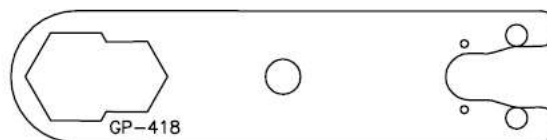
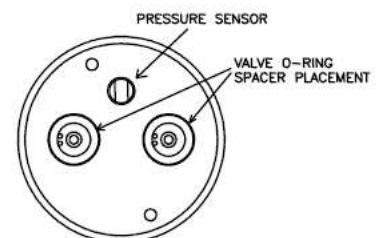
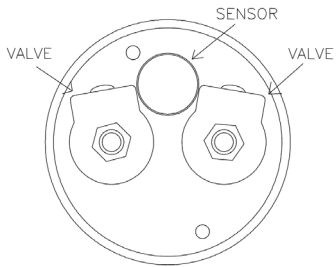
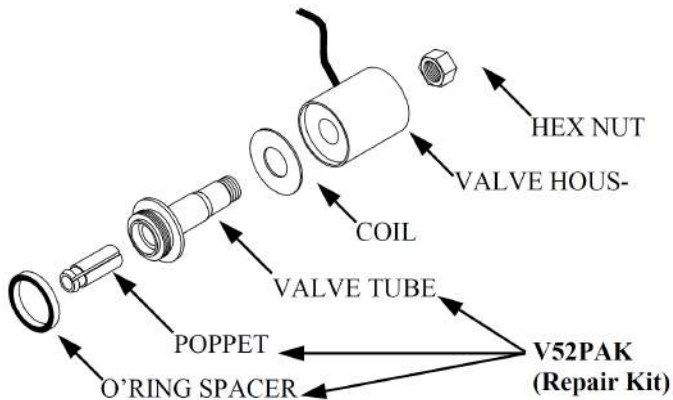

Figure 11
Figure 12
Figure 13
Figure 14
- F. **Figure 14:** Of each valve assembly, remove hex nuts and disassemble valve tube from coil and valve housing. (Keep coil washer, valve housing and hex nut because they are not included in the repair kit and can be reused)
- G. **Figure 11:** Using span wrench, remove valve tube from manifold cavity.
- H. Remove poppet and o’ring spacer from manifold. See figure 12 for o’ring spacer location and **figure 14** for valve orientation
- I. If sensor needs to be replaced, unthread sensor from manifold. See **figure 13** for sensor location.
- Place sealant compatible with media in use on the second or third full threads of the pressure sensor (exercising care not to get sealant into the manifold passages), and thread into 1/8" NPT port on top of manifold. See Figure 13 for sensor location.
- Remove repair kit "V52PAK" from box. Figure 14. V52PAK (repair kit includes: (2) O'ring spacers, (2) poppets, (2) valve tubes & span wrench (figure 11))
- Place new o'ring spacers in valve cavity of manifold. Figure 12
- With poppet installed in the valve tube, thread valve tubes into manifold cavities tightly using span wrench. See figure 14 for poppet orientation.
- Check to make sure valve tubes are tight!** Place coil washer and valve housing on valve tube, refer to figure 14 for assembly order. Turn square end of valves toward sensor. Figure 13. Tighten the hex nuts 1/8 turn past finger tight. Do not over tighten!